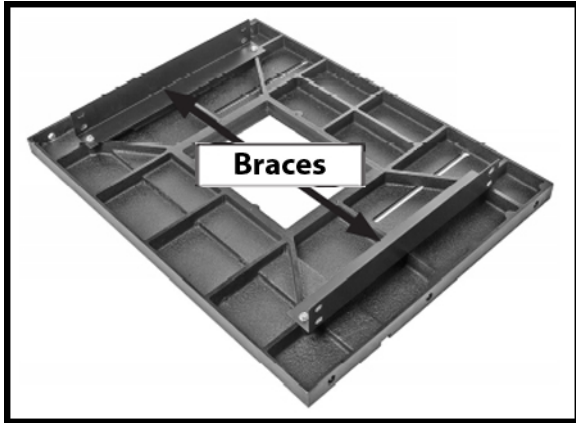

Figure 15
4. Place the tabletop upside down on a flat surface and using 5/16-18 x 1/2" flange bolts attach the upper short braces to the table as in (Fig.15).